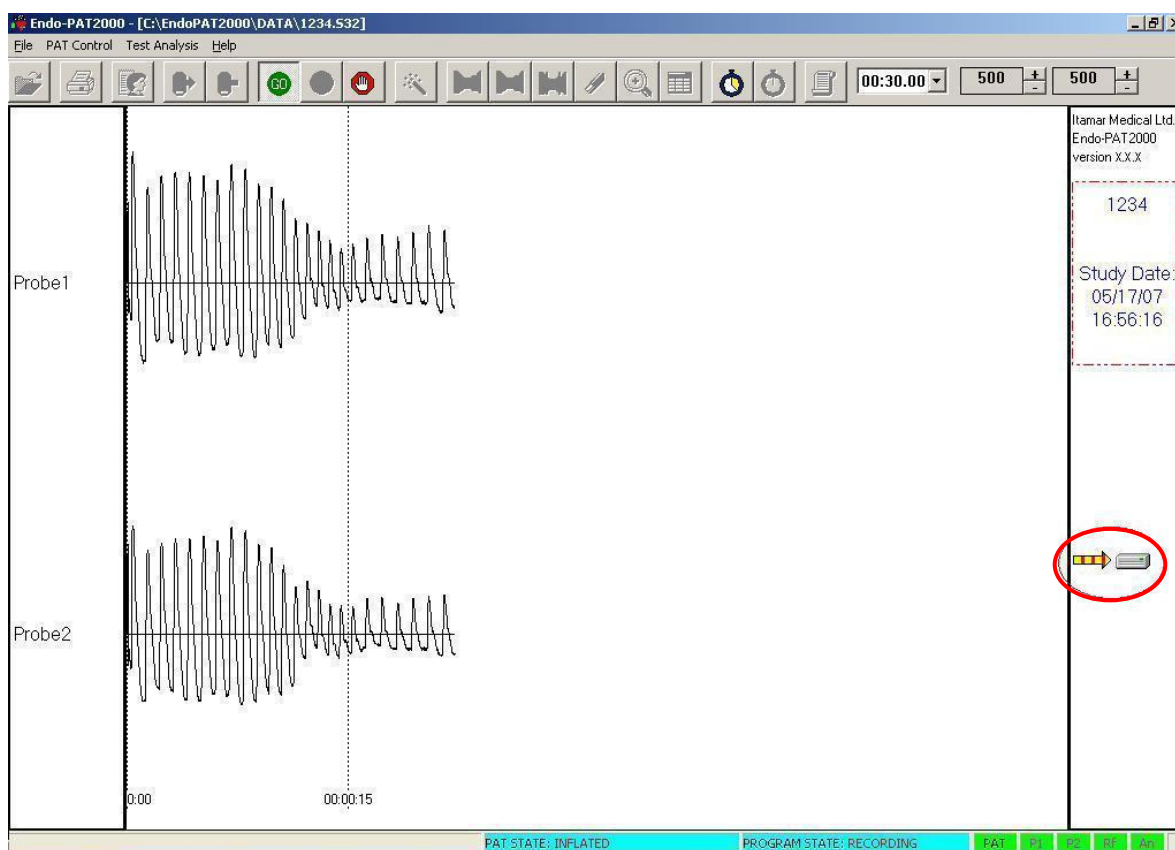

Figure 37 - Recording
- Click the  icon to begin study recording. Verify that the “recording” icon appears on the right hand side of the display (see the circled icon in Figure 37).